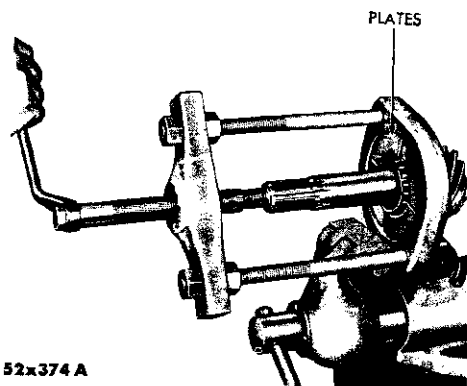

Fig. 11—Removing Pinion Shaft Bearing
(1) When removing the pinion rear bearing (Fig. 11) on a Chrysler Newport carrier use Tool C-293 and four (4) No. 36 adaptors. On all other Chrysler and Imperial models, use Tool C-293 and four (4) No. 37 adaptors.
(2) The pinion bearing cups can be removed from the carrier with a blunt brass drift and hammer.